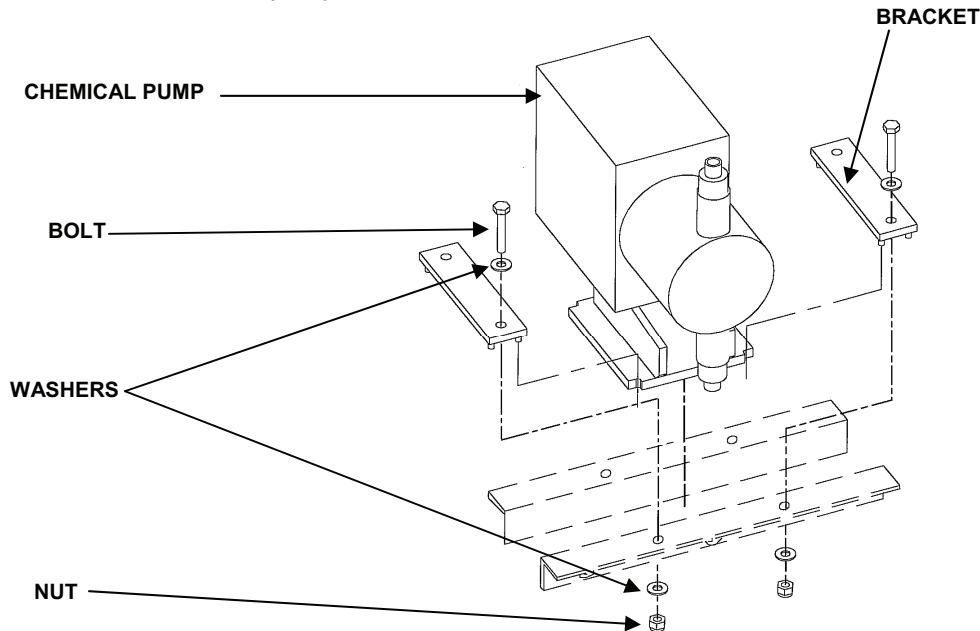

Figure 3. Chemical Pump Mounting Brackets.
9. Remove four (4) nuts, bolts, and washers, and two (2) mounting brackets securing chemical pump to the module. See Figure 3.